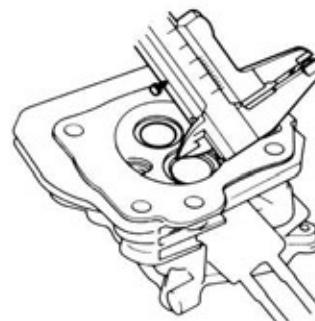

Figure 4-16: Measure Valve Seat Width
6. See Figure 4-16. Use the valve guide driver and install the new valve guide from the valve spring side of the cylinder head until the clip is fully seated as shown.